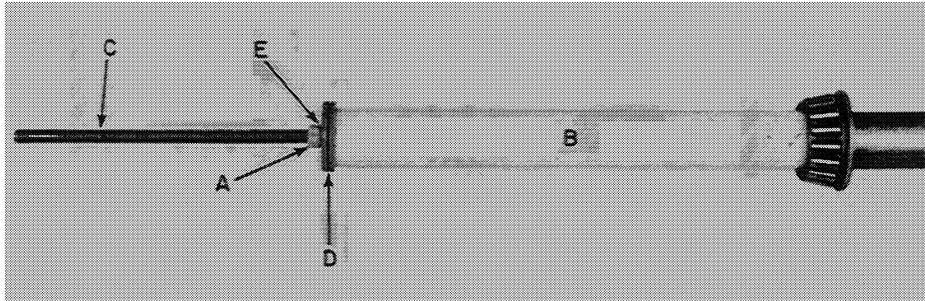

FIGURE 14
LEFT MAIN SHAFT BEARING INSTALLATION TOOL (Figure 14) (STYLE "B" MAIN SHAFT)
The tool is used on TR™70 combines on and above serial number 293163 and all TR™75/85 combines. Install the bearing pusher tool as shown in Figure 14. Tighten nut, A, to push the bearing into position. Apply oil to the all-thread rod so the nut will turn easier and to reduce thread wear. (See TR™70 combine service manual for proper assembly procedures).
- 1 Steel pipe - 2¼" ID, 2½" OD, 20" long (57 mm, 64 mm, 508 mm) (OD is only critical where pipe contacts bearing (B, Figure 14))
- 1 All-thread rod - 5/8" x 10" (16 mm x 250 mm) UNC Gr. 5 (C, Figure 14)
- 2 #66850 heavy flat washers (¾" ID, 3" OD, ¼" thick) (19 mm, 76 mm, 6 mm) or any suitable washer or flat metal plate with a 5/8" (16 mm) hole in the center and a minimum OD of 2½" (D, Figure 14)
- 1 Plain washer 5/8" (16 mm) (E, Figure 14)